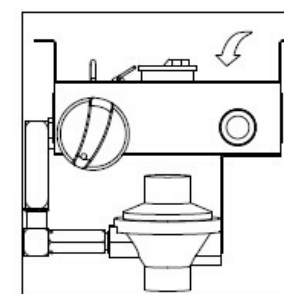

Figure 5
8. Push in and turn the control knob to the "HIGH" then release and turn counterclockwise to "LOW" (Figure 5)